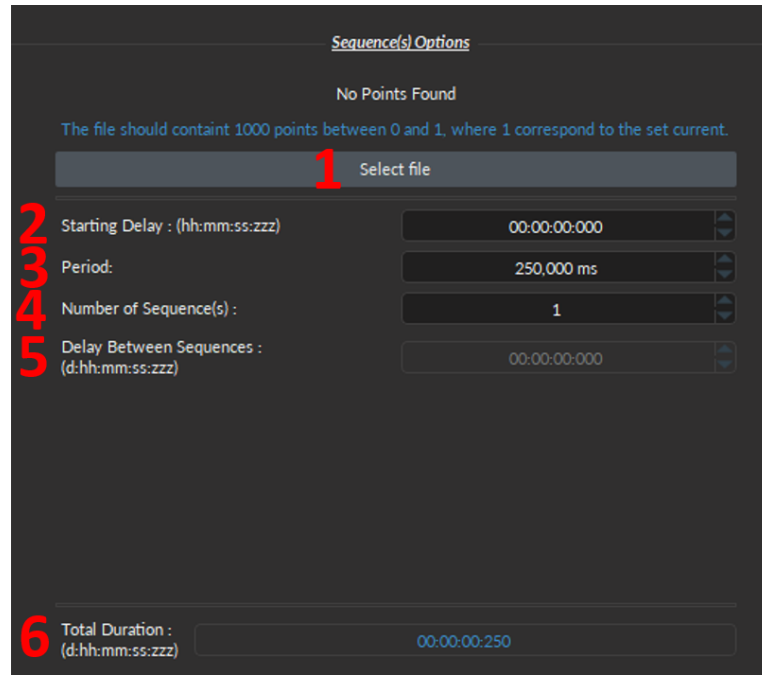

Figure 4.19: Light Source Channel Setup Window, Custom Sequence File Mode
2. The **Starting Delay** (Fig. 4.19) sets the delay (in hh:mm:ss:zzz format) before the first pulse sequence.
3. The **Period** (Fig. 4.19) sets the period (in ms) for the pulse sequence contained in the file.
- The **Number of Sequences** (Fig. 4.19) sets the number of times that the sequence will be repeated, with a minimum of 1.
- The **Delay Between Sequences** (Fig. 4.19) sets the delay (in hh:mm:ss:zzz format) between each sequence if the **Number of Sequences** is greater than 1.
- The **Total Duration** (Fig. 4.19) displays the total time of the experiment. The displayed values can be *Inf* for infinite or a valid time value.